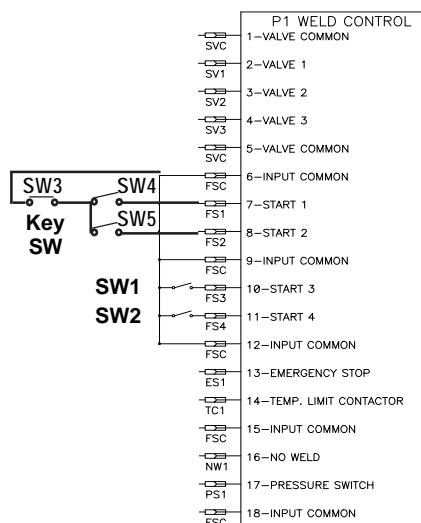

Figure 9-50.
2. Connect the initiation switches SW1 and SW2 to P1 connector as shown in Figure 9-50.